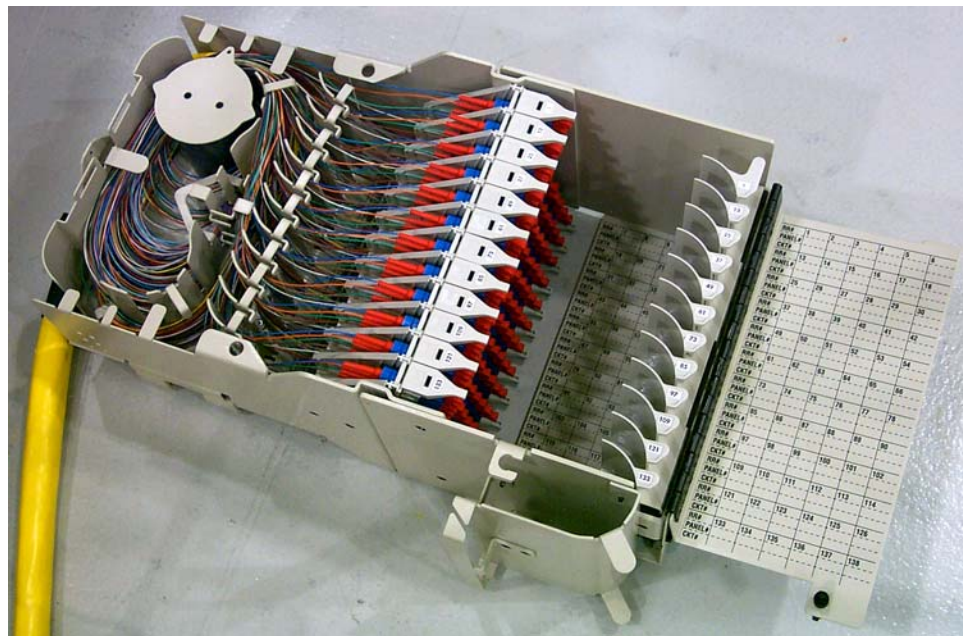

Figure 3. 144 Position Pre-Terminated FTB in Down Configuration
- The FTB may be ordered in either a pre-terminated or adapter only version. In the pre-terminated version, shown in Figure 3, the FTB is equipped with an installed OSP or IFC cable. One end of the cable is connected to the rear side of the adapters within the FTB. The other end of the OSP/IFC cable is coiled on a spool. At the job site, the free end of the OSP/IFC cable must be uncoiled from the spool and then routed to another location for splicing or connection to the OSP or FOT equipment circuits. The adapter only FTB is loaded with adapters only and does not include a pre-terminated OSP or IFC cable. The adapter only FTB is typically used to terminate FOT patch cords in a cross-connect application.